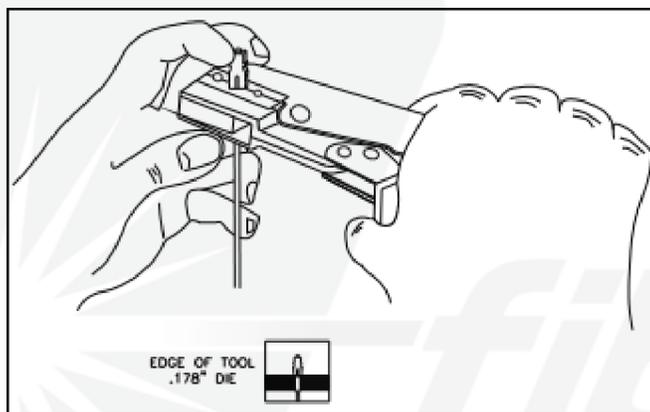
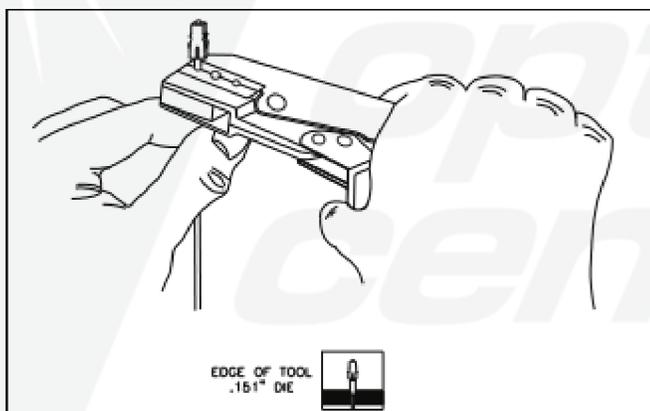

Figure 9: Use the .178" cavity die to crimp the entire length of the straight crimp ferrule.
Figure 10: Use the .178" and .151" cavity dies to crimp the stepped crimp ferrule.
12. Pull any Kevlar strength members from under the connector body and distribute them evenly around the connector body. With the dispensing tip, apply one small drop of epoxy to the knurled portion of the rear body. Slide the crimp ferrule up onto the rear portion of the connector over the strength members until it seats just under the coupling nut. Hold the connector with the forefinger applying light downward pressure to ensure that the connector is fully seated onto the buffer (see Figure 9). If the straight crimp ferrule is used, position the .178" cavity of the crimp tool up against the rear portion of the connector. Crimp the entire length of the ferrule. If the stepped crimp ferrule is used, crimp the large diameter with the .178" cavity and the smaller diameter with the .151" cavity, as shown in Figure 10. The .151" die used with the stepped crimp ferrule will accommodate a jacket with a minimum outer diameter of 2.6 mm. For 953 terminations, slide the boot over the crimp ferrule. Optional: The boot may be slid up on the 905 or 906 Smarts, 944, or the 954 connectors for ease of handling after heat curing. Then, pull back the boot so the connector can be correctly inserted into the polishing tool.